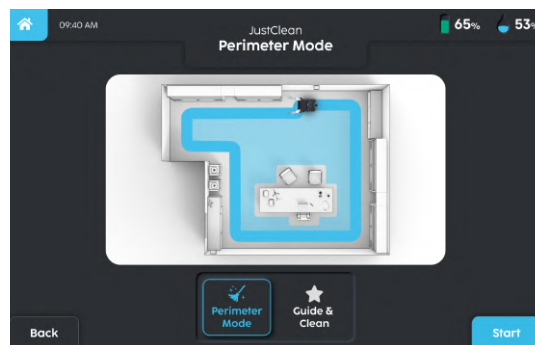

FIGURE 6-18
- a. Perimeter Mode - Push the machine along the perimeter of the cleaning space and it will clean everything within the perimeter (**Fig. 6-18**).